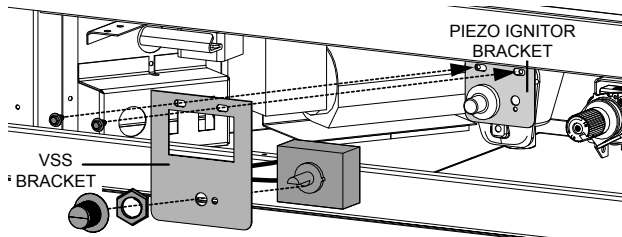

Fig. 3
8. The variable speed switch (VSS) will need to be disassembled to secure to the VSS bracket for installation. Place the VSS through the mounting bracket using the lock washer to secure it in place. Take the variable speed switch knob and install into position (**Fig. 3**).
9. To install the variable speed switch, the mounting bracket will first need to be installed. Remove the two screws securing the piezo ignitor switch bracket in place. Install the VSS mounting bracket into position then reinstall the two previously removed screws (**Fig. 3**).